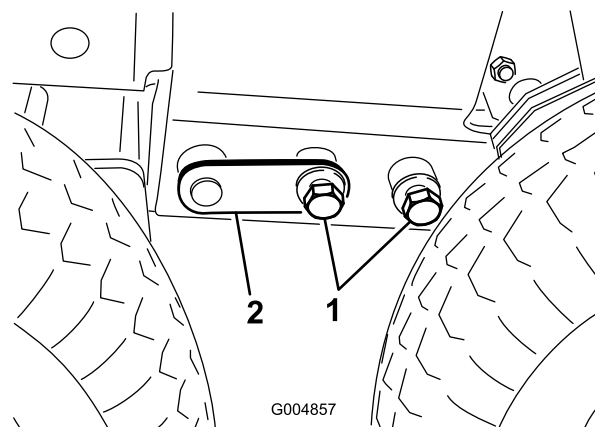

Figure 80
19. Remove the (2) 3/4" diameter bolts that attach the front frame to the rear frame ahead of the drive tire from each side of the frame (Figure 80). DO NOT REMOVE THE COUPLER PIN AT THIS TIME.